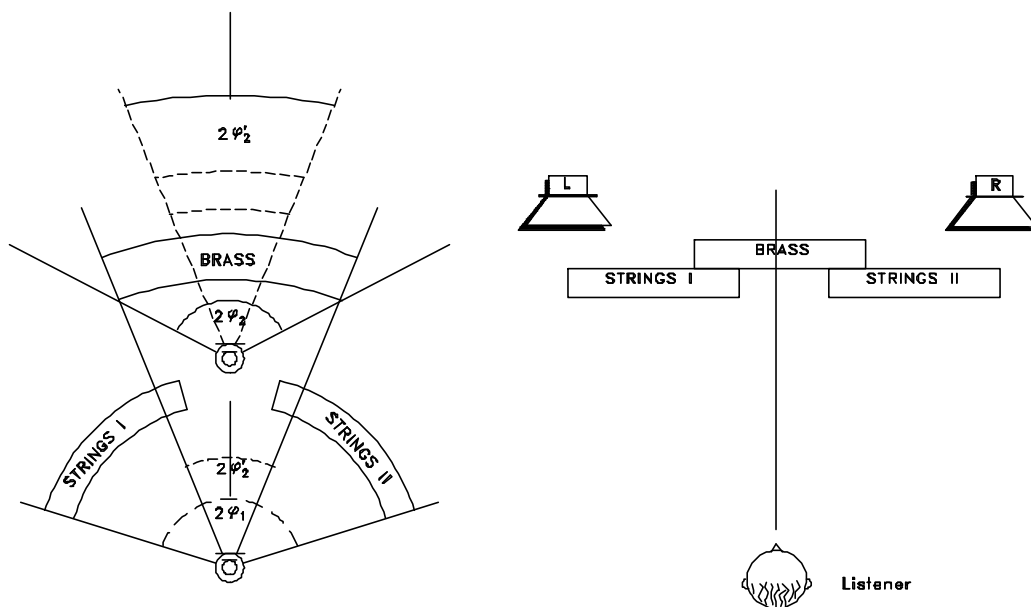

Fig. 28:
1. In the so-called "staggered arrangement", additional coincident microphones are set up in the symmetry plane of the main microphone (Fig. 28). This requires an adjustment of the represented basis width of the support microphones to the representation of the main microphone in order to avoid a repeated representation of a sound source on the stereo basis. In this case, the basis width of the support microphone has to be set smaller than that of the main microphone due to it's shorter distance to the supported sound source.